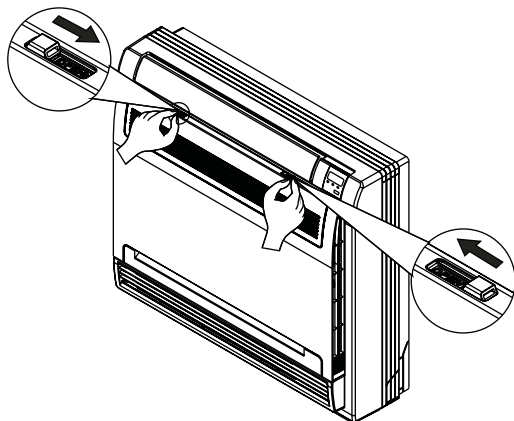

Fig.43-6
- Slide the two stoppers on the left and right sides inward until they click. See Fig.43-6.